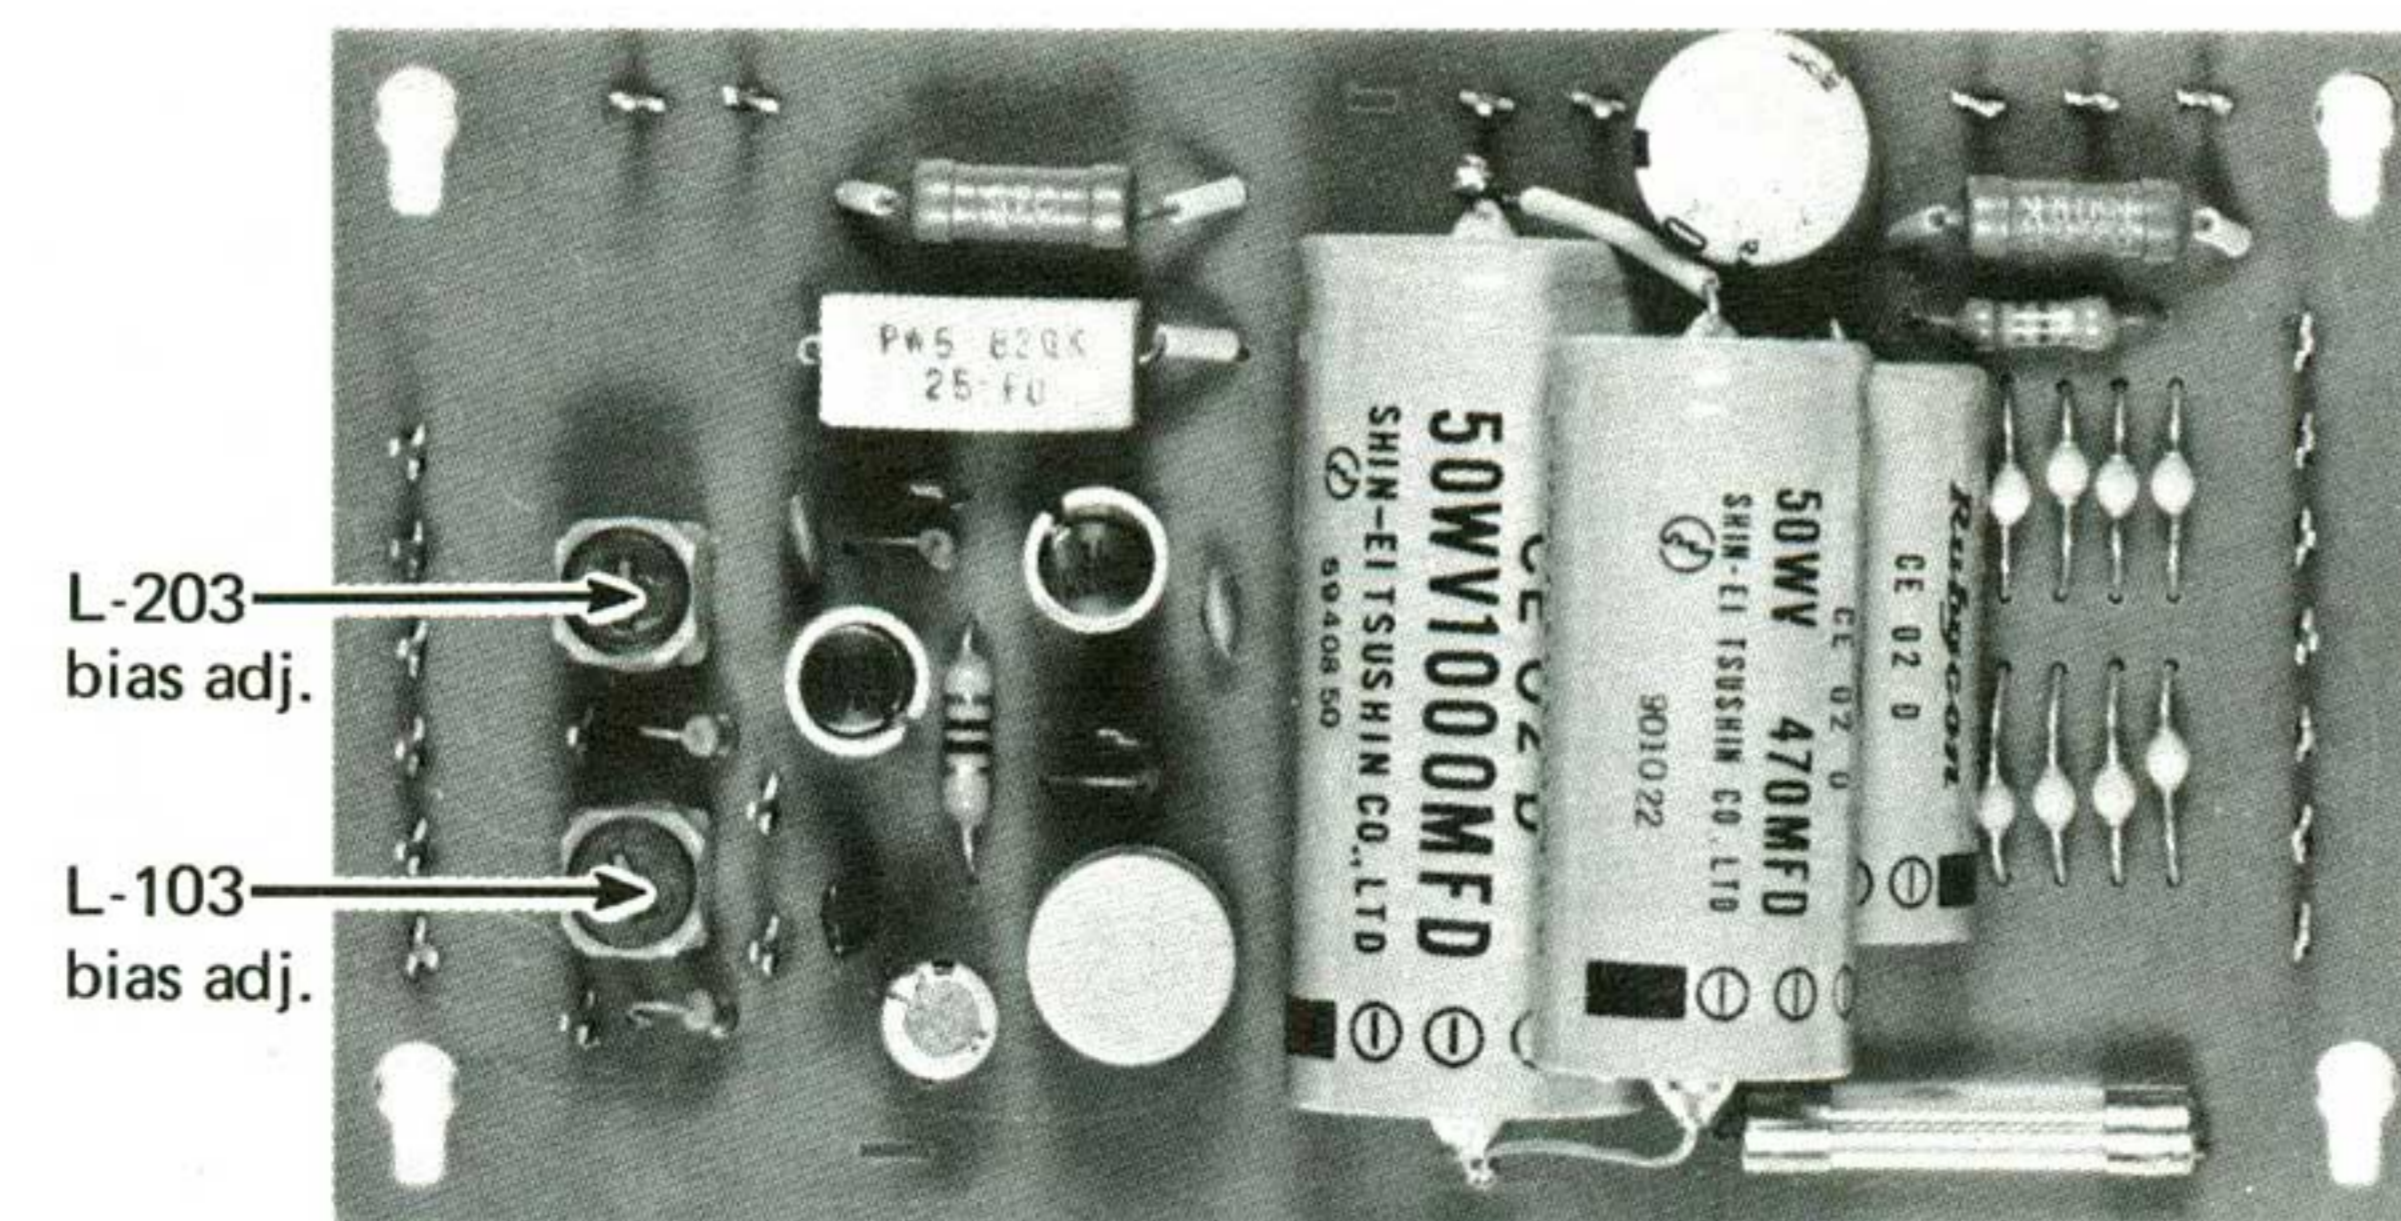

Fig. 3
- Fig. 3 Adjusting parts locations – PCM-116, Power Supply and Bias Oscillator PC Board –